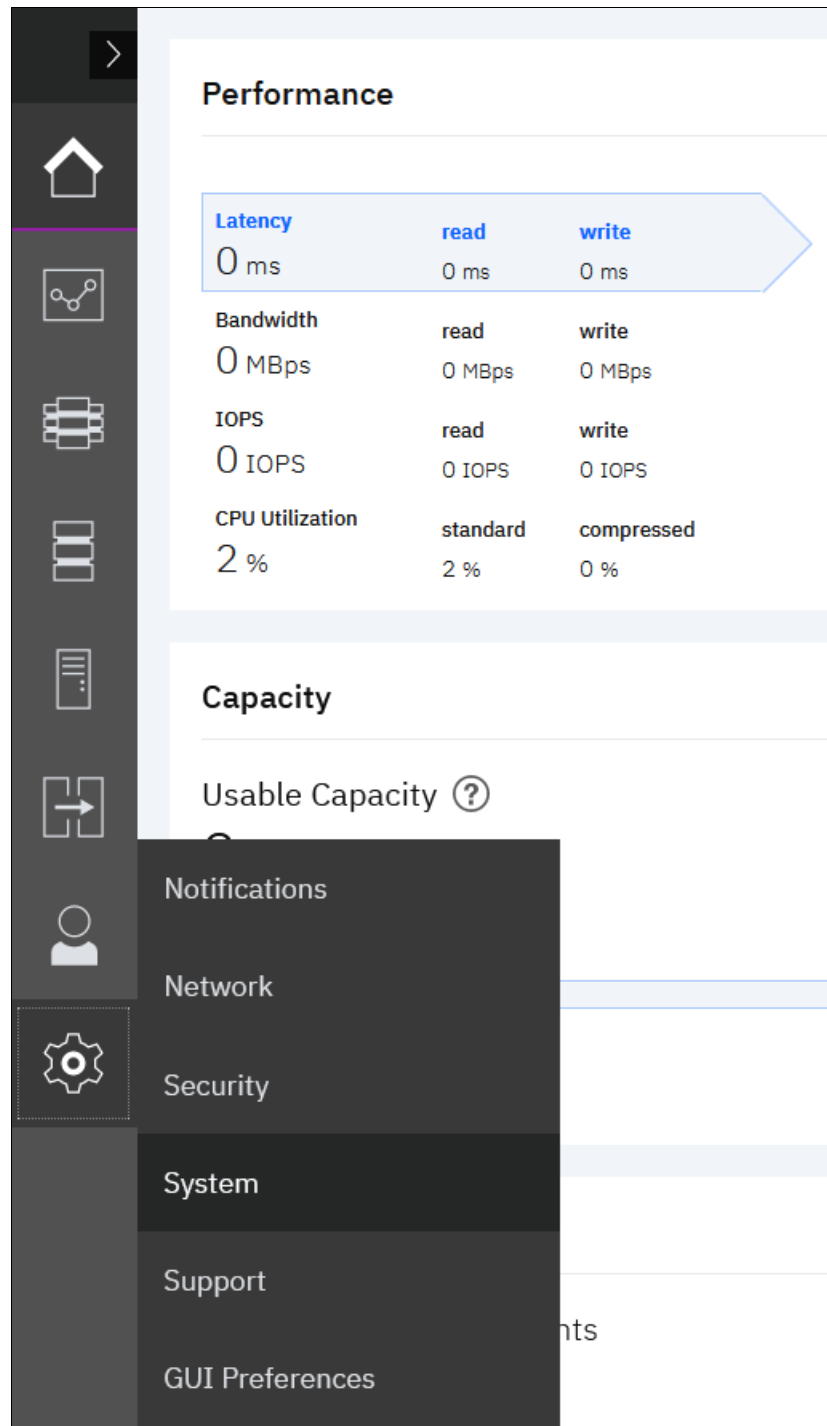

Figure 13-15 Settings menu
1. Log in by using superuser credentials. The management home window opens. Mouse over **Settings** and click **System** (see Figure 13-15).